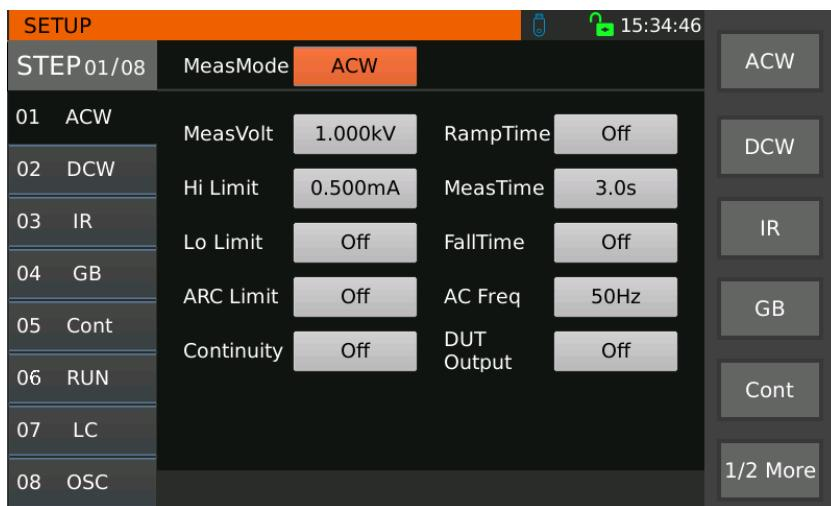
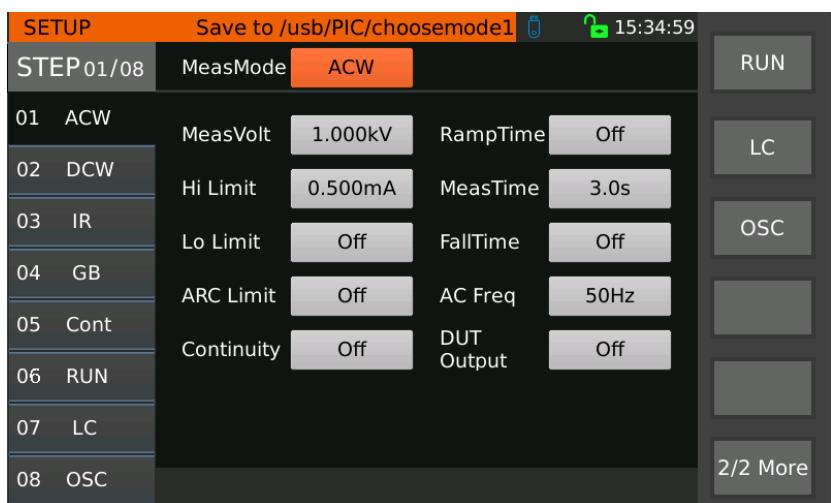

Figure 3-12 Test Mode Selection 1
Figure 3-13 Test Mode Selection 2
- 3、Touch **【Test Mode】** option key or **【▶】** direction key to enter the interface as shown in Fig. 3-12 and Fig. 3-13, you can select different test modes, including AC Withstand Voltage, DC Withstand Voltage, Insulation Resistance, Ground Resistance, Conductance Test, Electrical Test (only TH9130X), Leakage Current (only TH9130X), Open/Short Circuit.